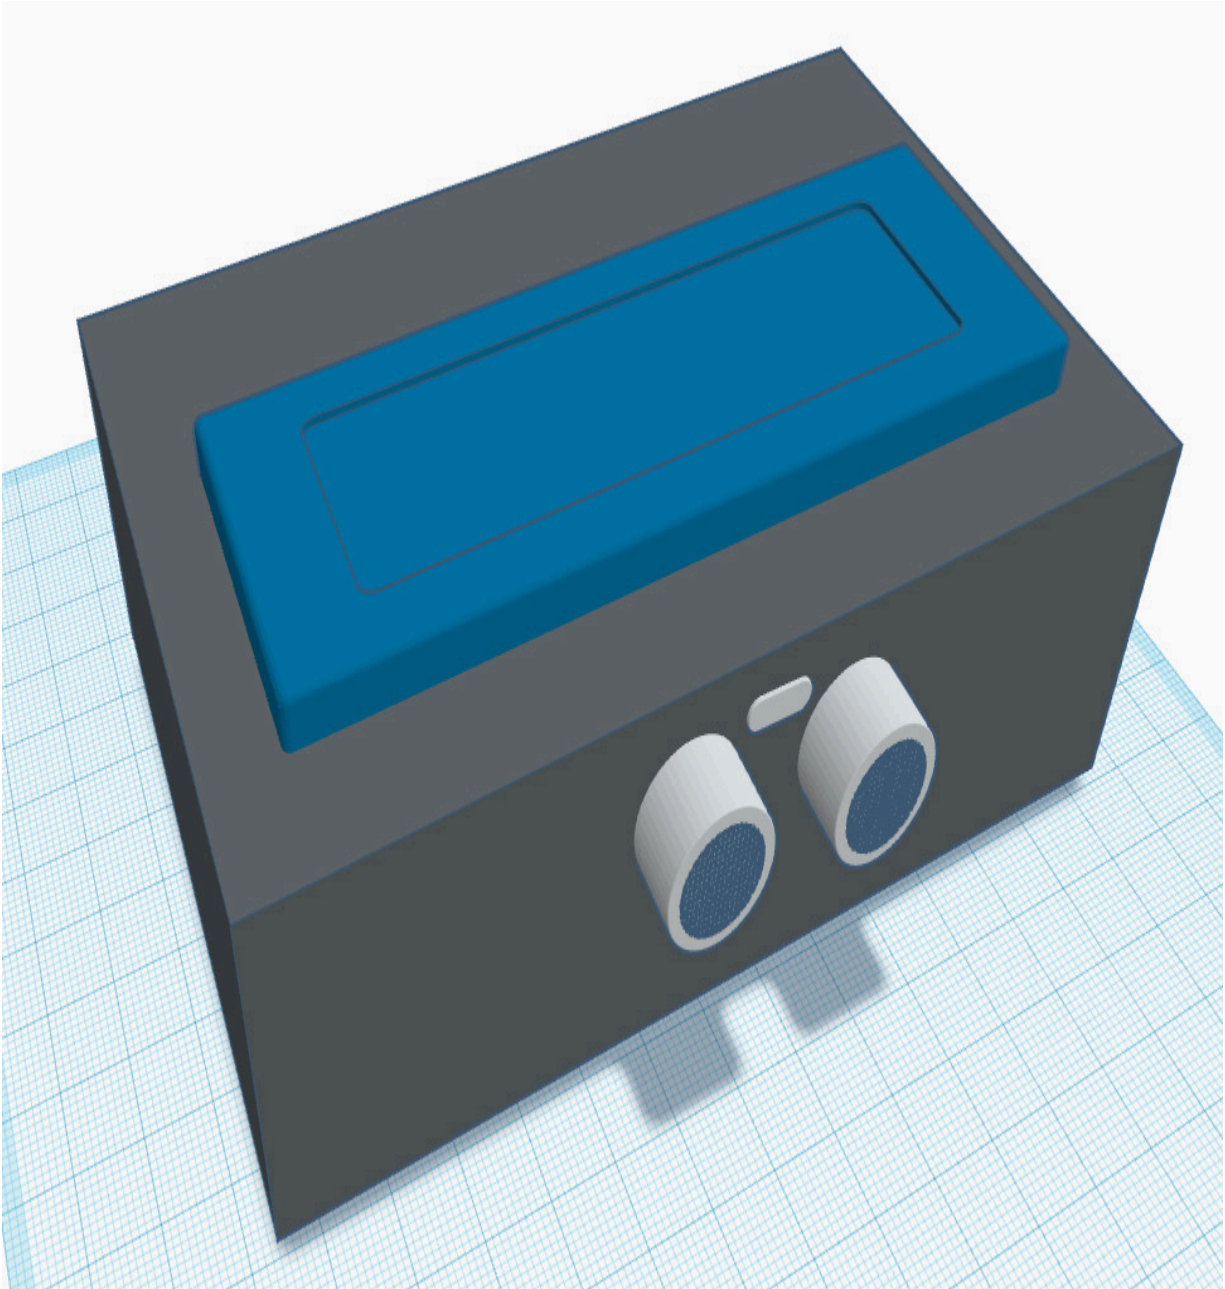

Figure 14.10 – A 3D prototype design containing the whole project
*Figure 14.10* shows a prototype design with a custom-made case giving you an idea of how you could encase all the components and protect the electronics from water spilling:
As you can see from *Figure 14.10*, that case could be a plastic box where the 1602A LCD is placed on top of it. The HC-SR04 sensor is placed at the front of the case. The interior of the case could contain the small breadboard, wires, the Blue Pill, the resistor, the power